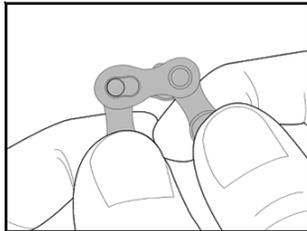

Fig.4
4. To disconnect the Drive link, isolate the link. (Fig.4)